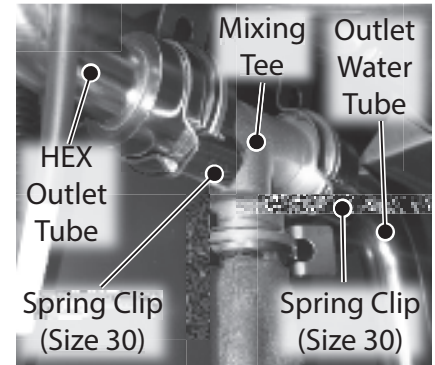

Figure 204 - Remove spring clips from HEX outlet tube and outlet water tube
16 Remove the two (2) spring clips (size 30) securing mixing tee to HEX outlet tube and outlet water tube as shown in Figure 204. Place spring clips aside in a safe place for reinstallation.